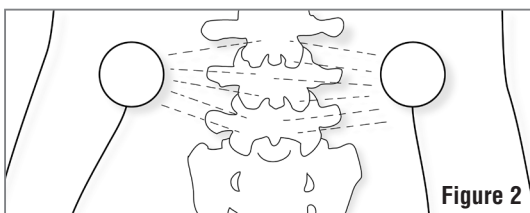

Figure 2
- **Note:** To ensure electrode placement and adhesion, you may use one of the provided electrode retainer patches. Place one electrode two to three inches to the left of the area of the surgery and a second electrode two to three inches to the right of the area of the surgery so that the electrodes are four to six inches apart. See Figure 2. Depending on the patient's ability to move after surgery, it may be helpful for the patient to ask another person to assist them in placing the electrodes. See instructions for use on Page 10. The patient should consult their prescribing physician or Zimmer Biomet if they have any questions or concerns regarding proper electrode placement. If their skin becomes abnormally red at the electrode sites, the electrodes should be moved adjacent to the original sites. If the redness does not go away after 48 hours with the electrodes removed, the patient should contact their prescribing physician.